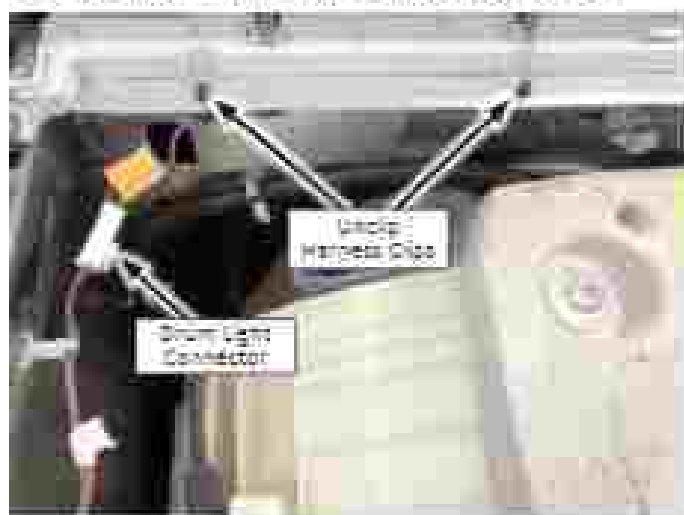

Figure 1
5. Disconnect the Drum Light connector (see Figure 1).